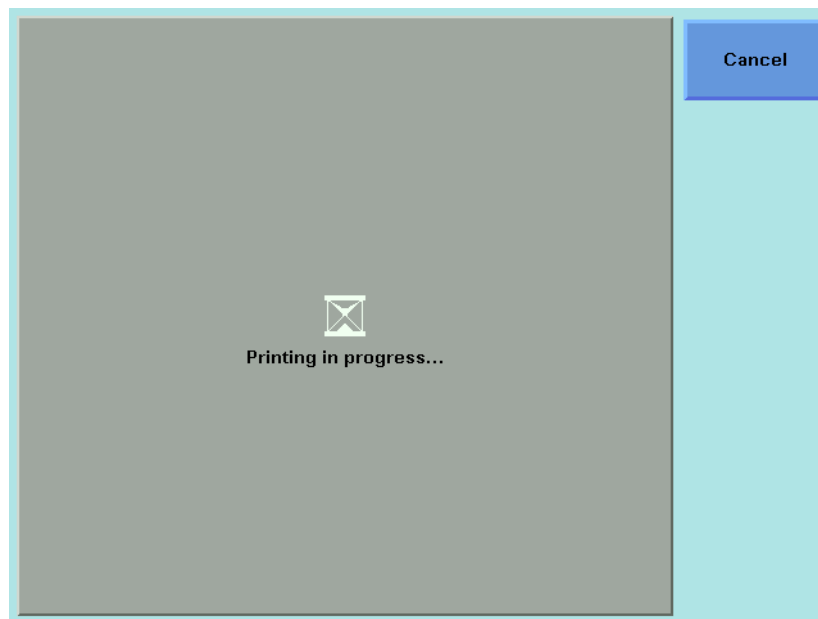

Figure 173 The Printing in Progress Screen
- 5 Press [Menu], move to <Print>, and press *Enter*. The screen, shown in Figure 173, appears.